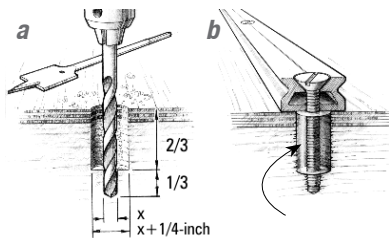

Figure 16 Drill oversized holes to increase the exposed substrate area and the amount of epoxy around the fastener.
1. Drill oversized holes  $\frac{2}{3}$ – $\frac{3}{4}$  the depth of the fastener. The hole diameter is  $\frac{1}{4}$ " larger than the fastener diameter (Figure 16-a).
5. Install the fasteners with just enough force to hold the hardware in place. Allow the epoxy to cure thoroughly before applying load to the hardware (Figure 16-b).